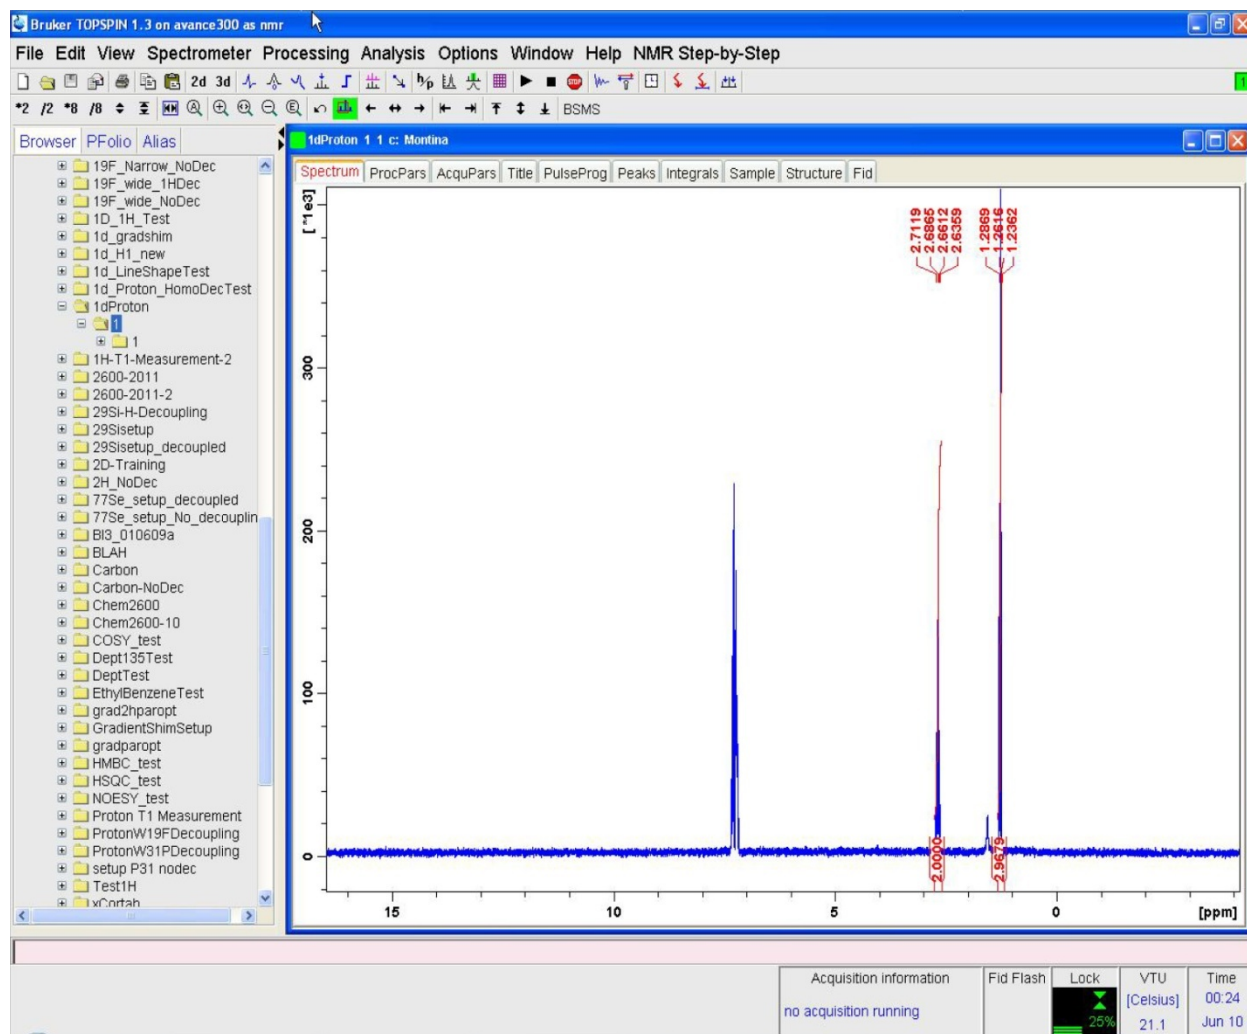

Figure 4 Topspin data window with Montana 1dProton data set showing.
(4) Topspin now shows the data structure for all users of the instrument. Navigate to your username and open up one of your old data sets. If you do not have any old data then you should open up the data set listed under the user Montana and called 1dProton (see figure 4 below). We will use this experiment to create a new experiment/dataset under your username.